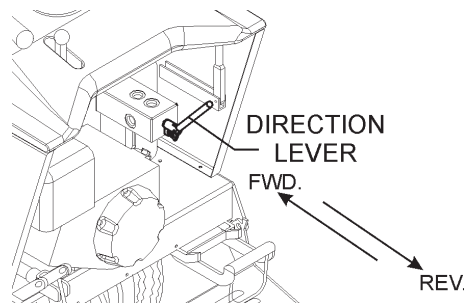

Figure 18. Direction Lever
4. Place the power buggy's **direction lever** (Figure 18) in the forward direction.
1. With the engine running and parking brake released, place the **direction lever** (Figure 18) in the **FORWARD** direction.